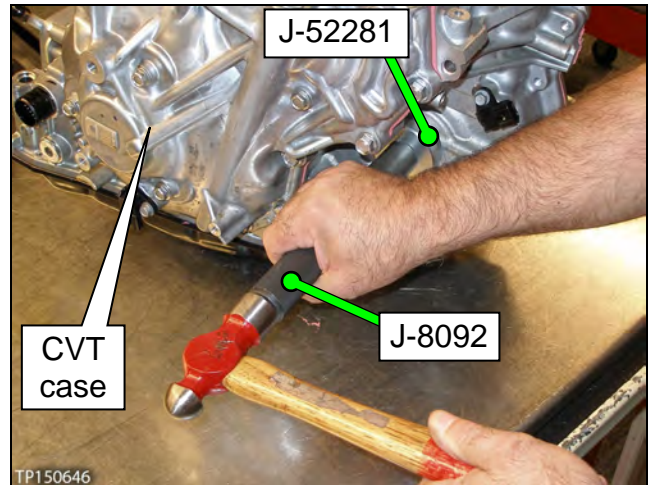

Figure 43F
38. Install the CVT case side axle seal (Figure 43F).